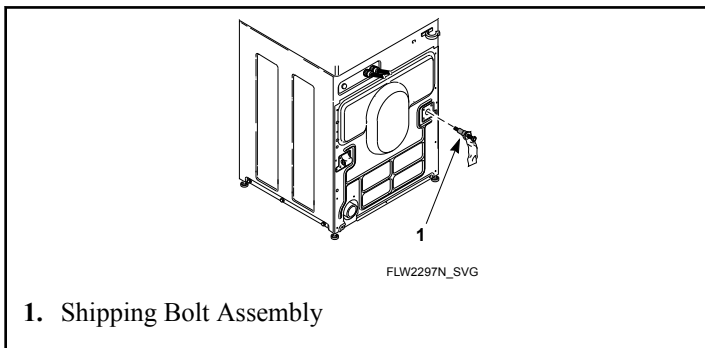

Figure 24
7. Insert shipping bolt assemblies into each shipping bolt hole. Refer to *Figure 24* .